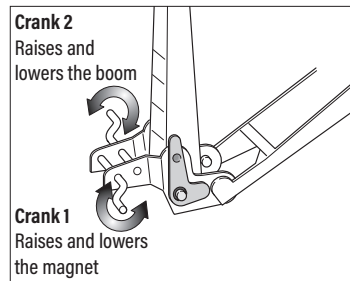

Figure 12. Derrick cranks
- Turn the cranks to lower the rocket onto the launch pad, then move the gantry back. To identify the cranks, refer to Figure 12.